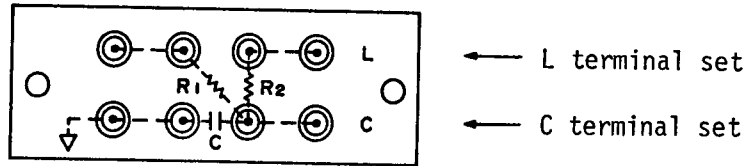

Figure 4-6. HP 16074A Quasi-inductor.
3. Connect 100 $\mu$ H quasi-inductor "C" terminals direct to 4275A UNKNOWN terminals. See Figure 4-6.